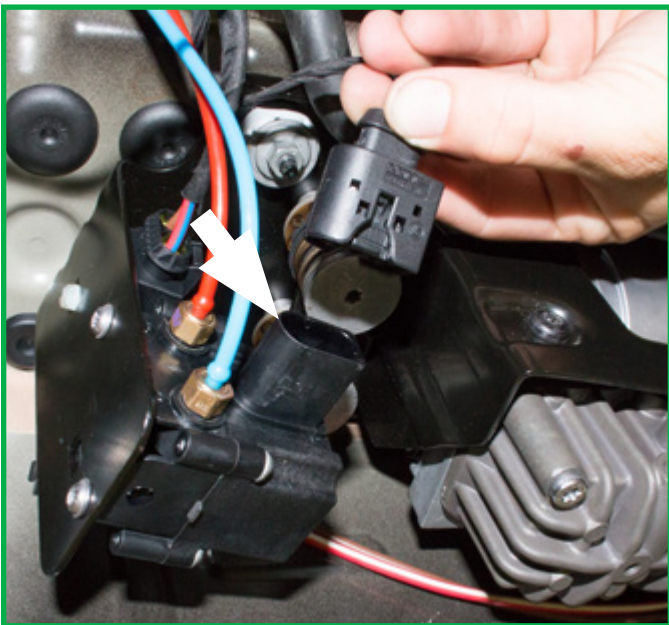

FIGURE 3
4. Disconnect the three (3) electrical connectors from the valve block and compressor assembly. (Figures 3, 4, 5)